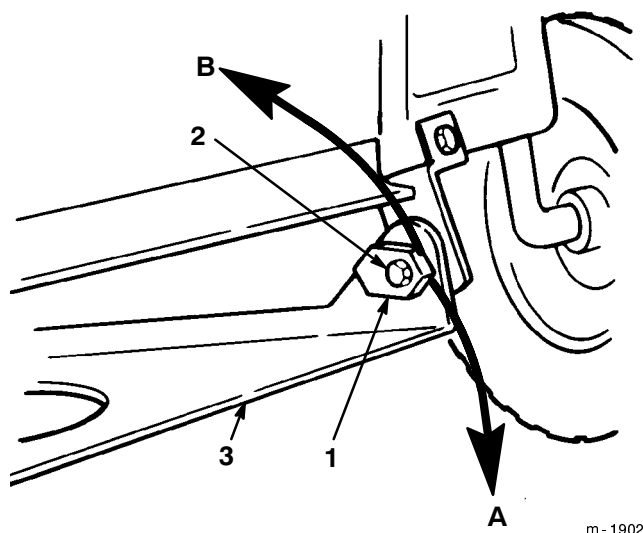

Figure 52
8. Adjust the front-to-rear slope by rotating the special slope adjusting nuts on both sides of the mower pivot mount (Fig. 52).
9. Using a 1" wrench or socket slowly rotate the left side slope adjusting nut down to raise the front of the mower and up to lower it (Fig. 52). Rotate the slope adjusting nut until the front of the mower is 1/4" to 5/8" (6.350 mm to 15.875 mm) lower than the rear of the mower.